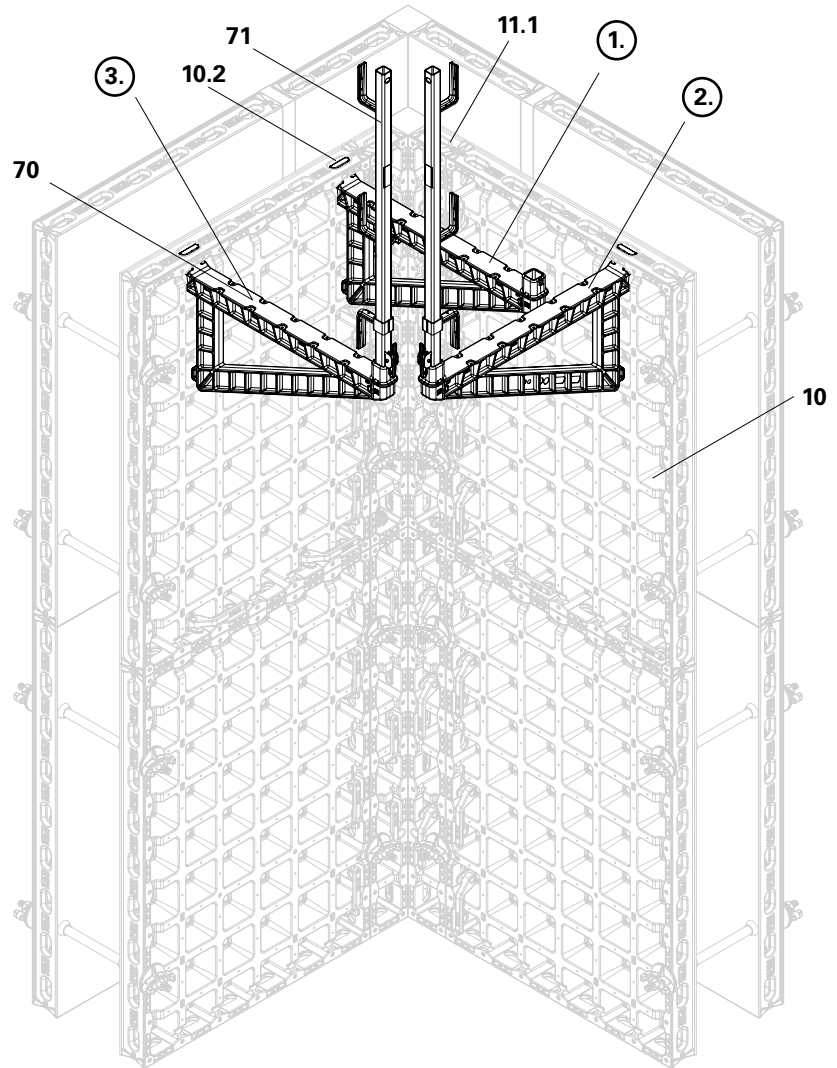

Fig. B4.11
3. Mount the third DUO 70 scaffold bracket (**70**) with PP post (**71**) on the opposite side of the DP panel, as close as possible to the second DUO 70 scaffold bracket (**70**). The DUO 70 scaffold brackets (**70**) must not come into contact with each other. (Fig. B4.11)